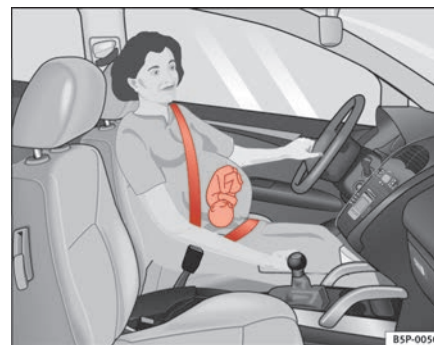

Fig. 15 Positioning seat belts during pregnancy
- Holding the latch plate, pull the belt evenly across your chest and as low as possible over the pelvis ⇒ fig. 15.